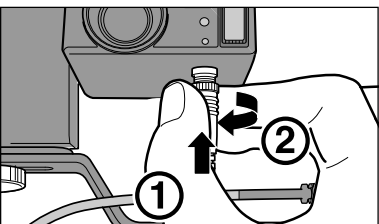

図 3/Figure 3/Abbildung 3/Figure 3/ Figura 3/Figur 3/Figura 3
- After rotating the camera lens section slightly upward, insert the lead from the multi-flash adapter into the camera's external flash terminal ① and rotate the locking nut clockwise ② to fix it in place (Figure 3).